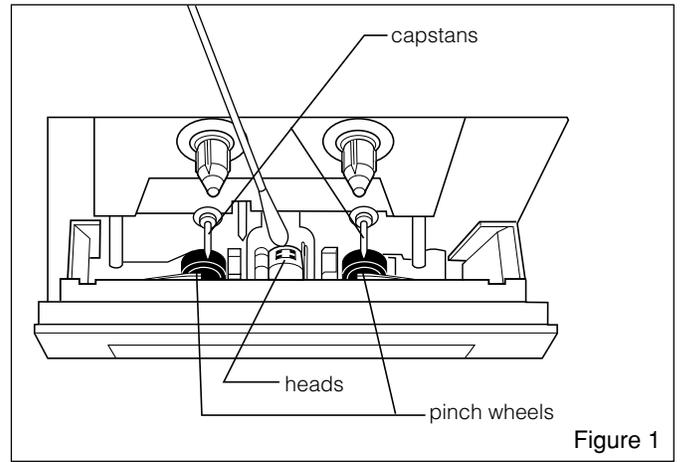

Figure 1
2. As shown in Figure 1, clean the parts which come in contact with tape, including the heads, capstans, tape guides, pinch wheels, etc., with a cotton swab soaked in head cleaning solution or denatured alcohol.